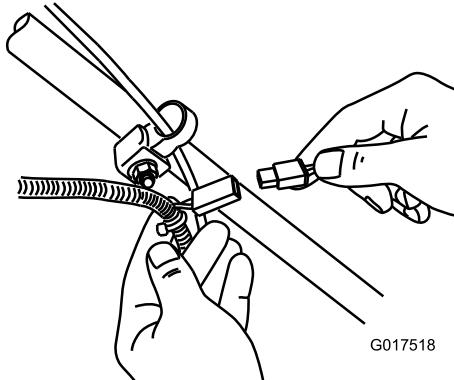

Figure 33
- Connect the charger to the wire harness, which is located below the ignition key (Figure 33).